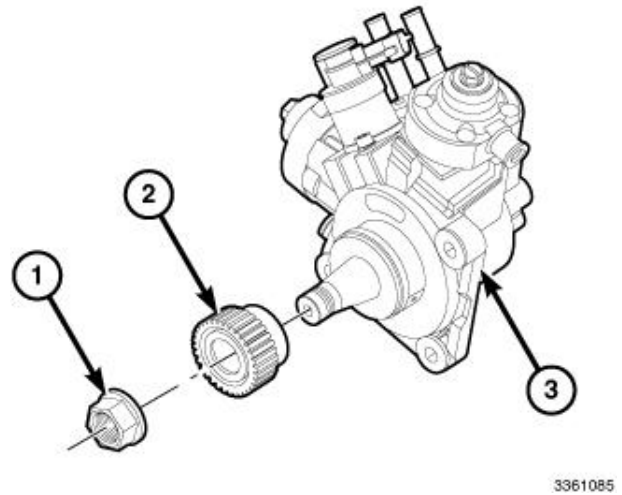

Figure 142 – Gear and Nut
NOTE: The use of Puller 1023 or a commercially available gear puller is required to remove the fuel injection pump gear (2) (Figure 142).
- 82. Install the gear (2) and nut (1) onto the fuel injection pump (3) and tighten the nut (1) finger tight (Figure 142).